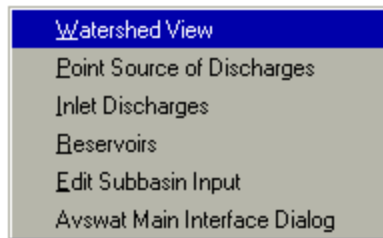

Figure 4.23
1. Right click the mouse within the map display area. A menu will appear (Figure 4.23)